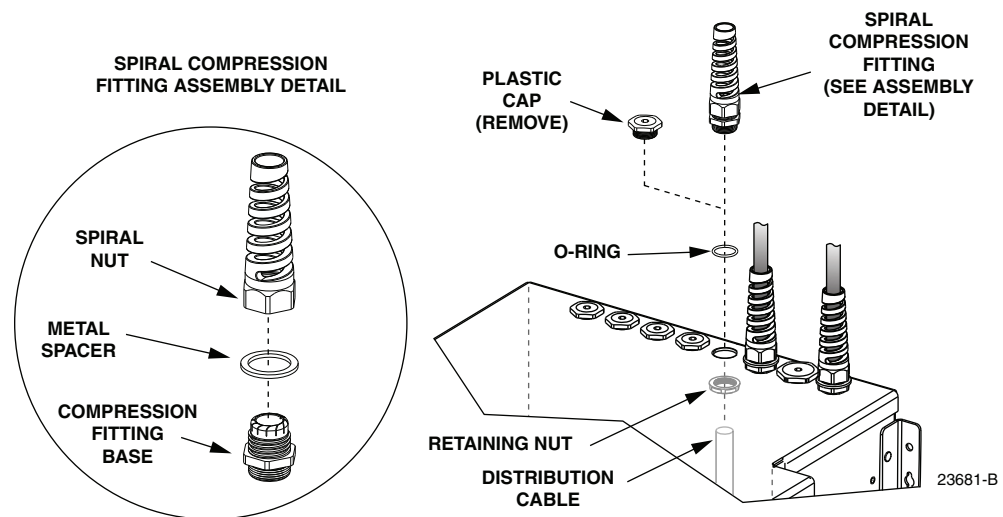

Figure 46. Plastic Cap Removal and Compression Fitting Installation
2. Remove plastic cap and retaining nut from the cable entry/exit hole as shown in Figure 46.